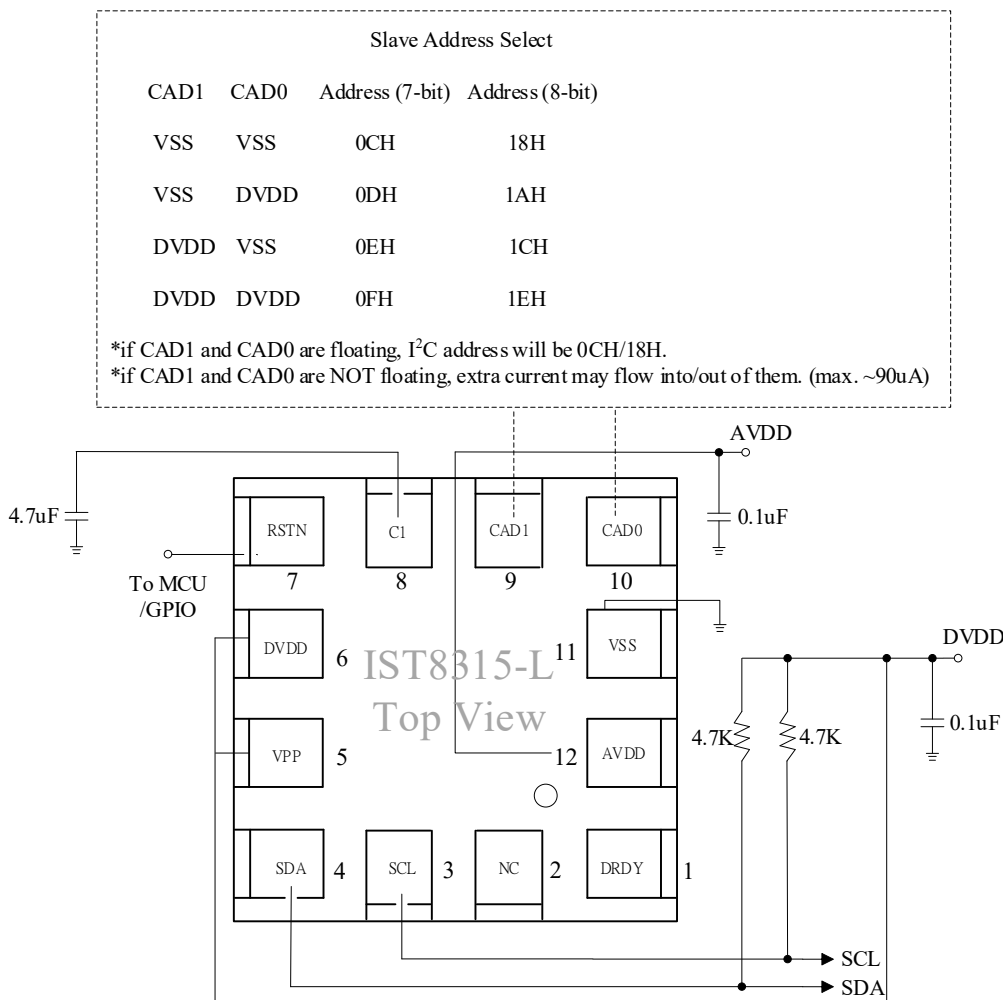

Figure 5. IST8315-L Application Circuit
*1 Please refer to Figure 5 on page 7.